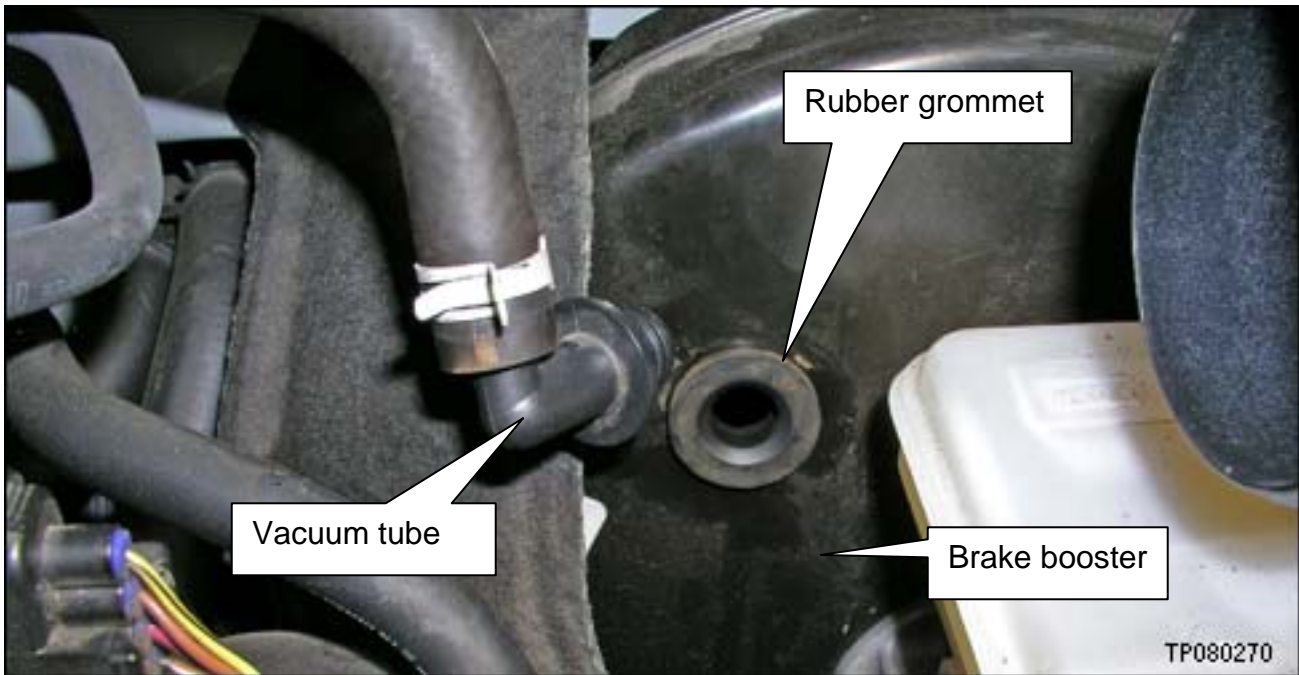

Figure 2
- Carefully pull the vacuum tube from the brake booster (see Figure 2).
- Remove the rubber grommet from the brake booster (see Figure 2).